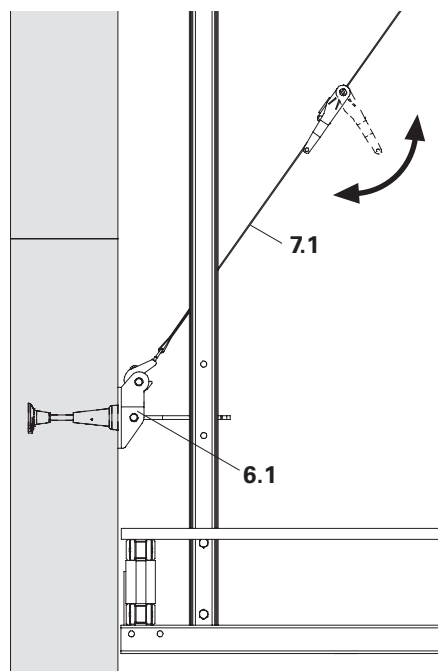

Fig. B1.35
6. Attach tension belt (7.1) below in the Bracing Shoe Wall CB M24 (6.1) and tighten. (Fig. B1.35)